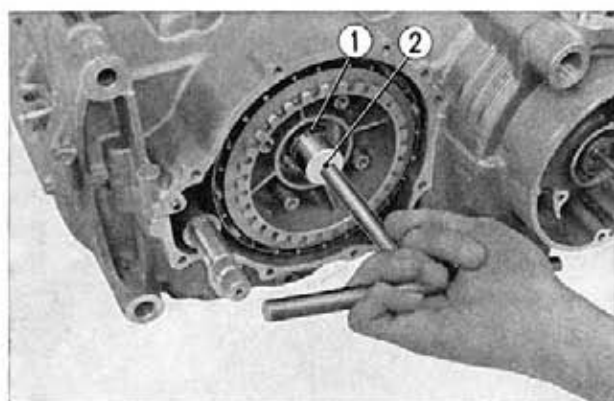

Fig. 4-4 ① Clutch lock nut
3. Remove the clutch lock nut using the lock nut box wrench (Tool No. 07916-2830000) and then remove the tongued washer and spring washer, followed by the clutch center. (Fig. 4-4)